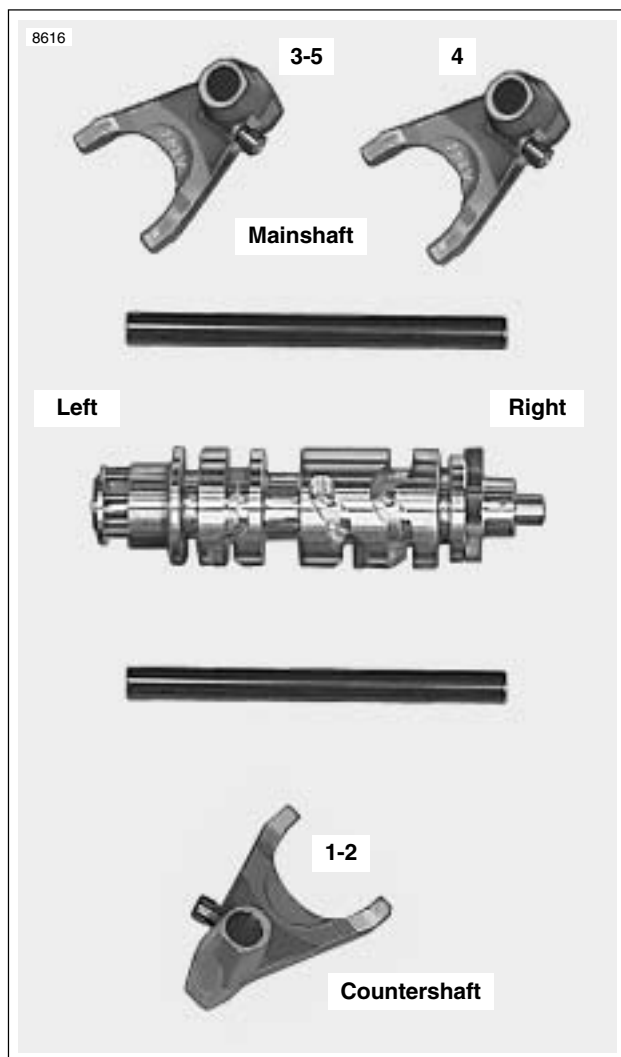

Figure 6-81. Shifter Forks, Drum and Shafts
- See Figure 6-81. Shifter fork design allows for one common part number for all three shifter forks. As the transmission runs, each shifter fork develops a certain wear pattern with its mating parts. For this reason, it is important that each shifter fork be reinstalled in its original location.